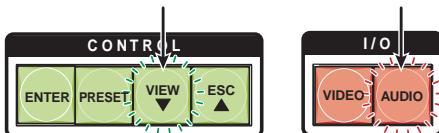

Figure 64. RS-232/RS-422 and Baud Rate Selection
- 3. To change a value**, press and release the button that selects the desired value (see figure 64).